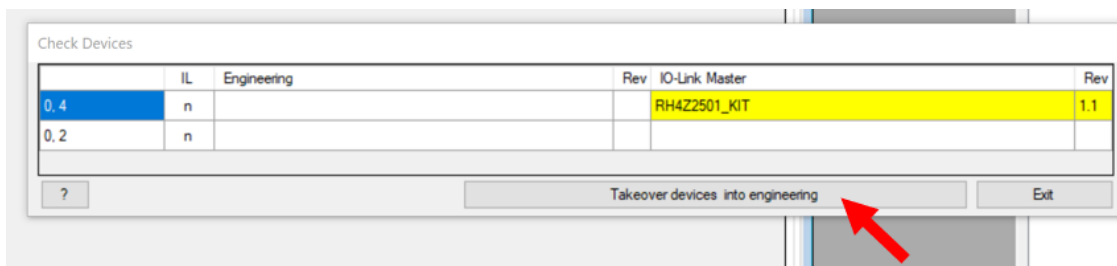
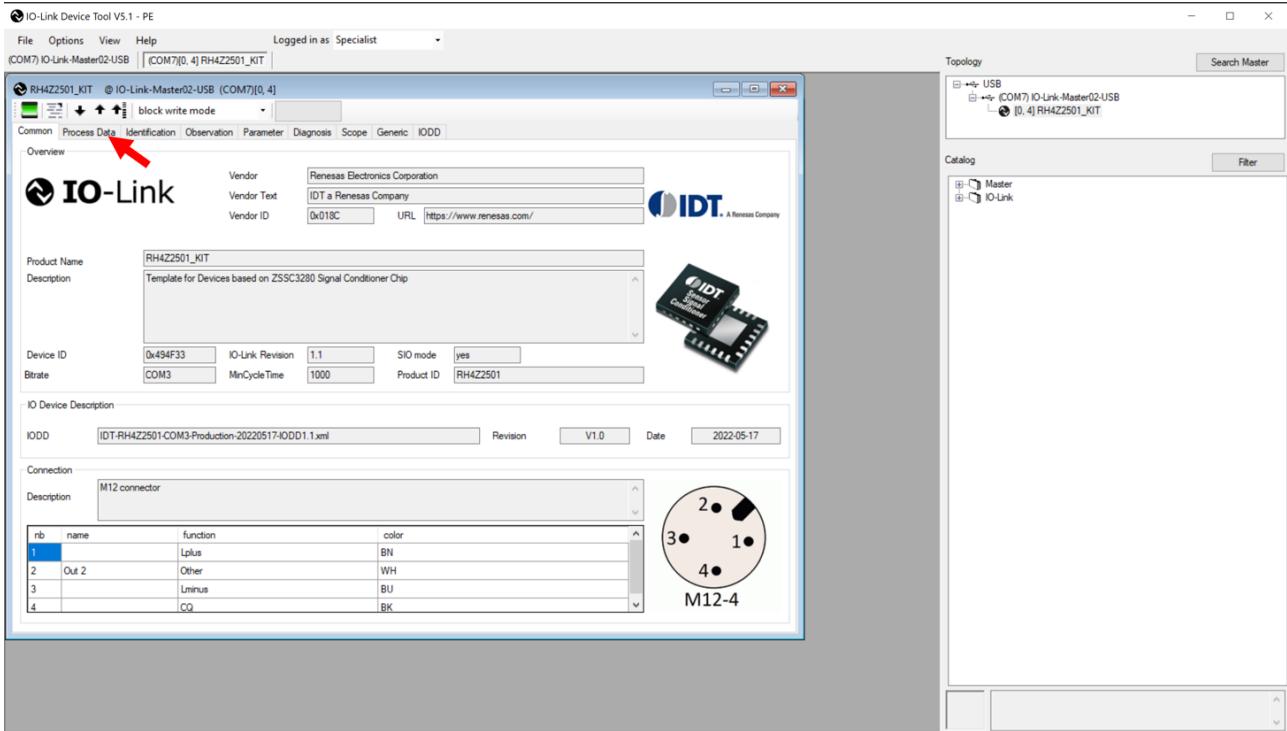

Figure 6. Takeover Devices
Figure 7. Opening Process Data Tab
- d. Click on 'Takeover devices into engineering', see Figure 6. Figure 7 will then appear.
- a. Open the 'Process Data' tab in the 'RH4Z2501\_KIT' window, see Figure 7.